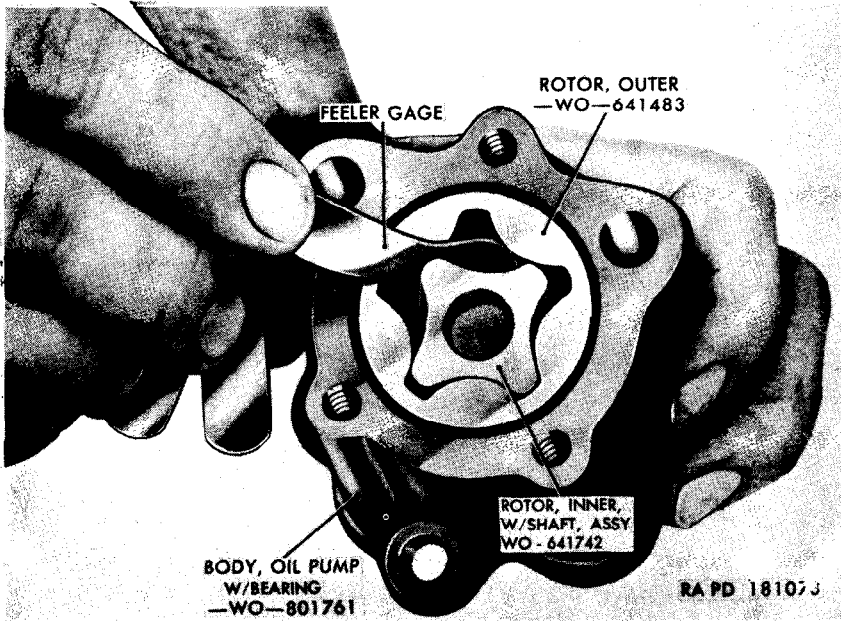

Figure 62. Checking clearance between inner and outer oil pump rotors.
- (6) Position the two rotors so that the lobe of the inner rotor is entered as far as possible into one of the notches of the outer rotor (fig. 62). With the rotors held in this position, insert a feeler gage between the opposite inner rotor lobe and the curved section of the outer rotor and gage the clearance. If the clearance exceeds 0.010-inch, replace both rotors.
- (7) Measure the length of both rotors, and discard them if either one exceeds the length of the other by more than 0.001-inch.